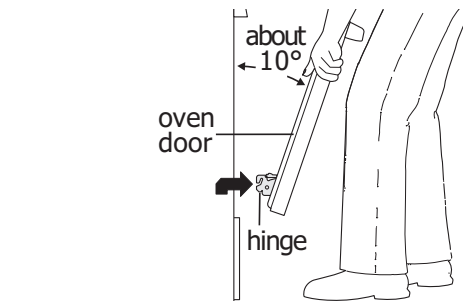
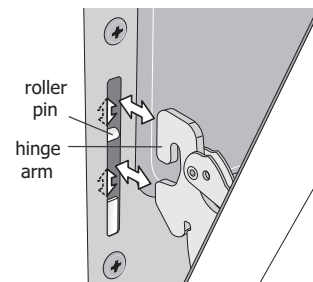

Figure 25: Holding door for removal
Figure 26: Replacement and location of hinge arm and roller pin
3. Firmly grasp both sides of oven door along the door sides. Do not use the oven door handle (See Figure 25).
4. Close the door to approximately 10 degrees from the door frame (See Figure 25).
5. Lift the oven door hinge arms over the roller pins located on each side of the oven frame (See Figure 26).
1. Firmly grasp both sides of oven door along the door sides. Do not use the oven door handle (See Figure 25).
2. Holding the oven door at the same angle as the removal position, seat the hook of the hinge arm over the roller pins located on each side of the oven door frame (See Figure 25 and Figure 26). The hook of the hinge arms must be fully seated onto the roller pins.